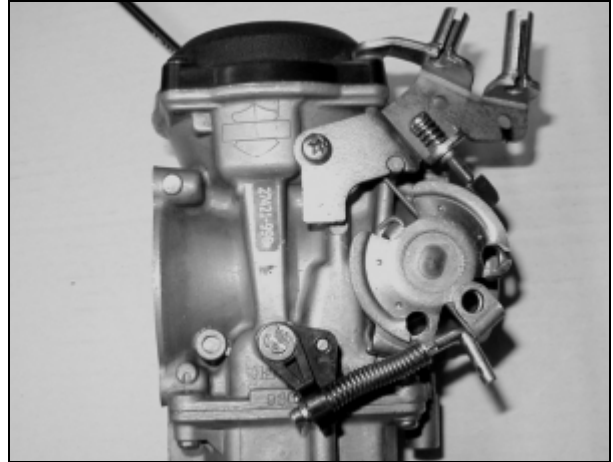

Figure 8. Carburetor - Rod and Collar Removed
16. See Figure 8. Remove rod from throttle shaft boss by removing cotter pin. Discard cotter pin and white collar but retain zinc plated washer for reinstallation.